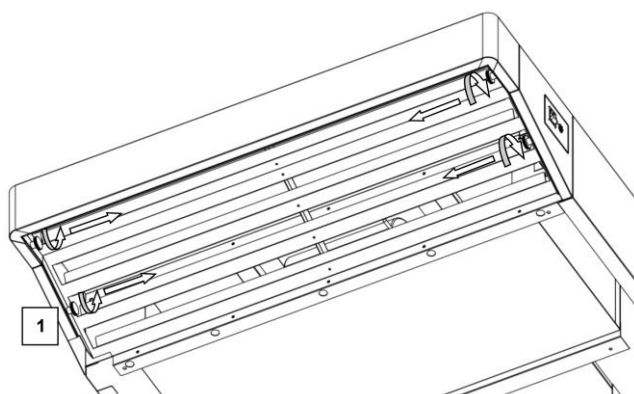

Fig. 4.1
- Unscrew the knobs fixing the grid on the left and right side (Fig. 4.1. part. 1);